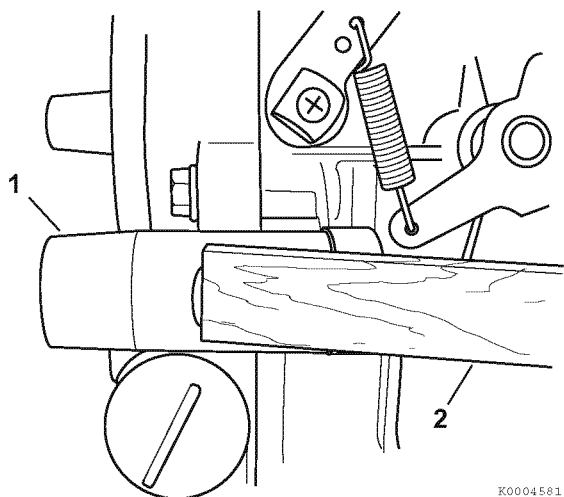

Figure 7-23
4. Use a hammer and metal chisel (2, **Figure 7-23**) to drive off the tamper-resistant cover (1, **Figure 7-23**). The chisel should be held at about a 30° angle to the tamper-resistant cover, and engaged in the slot. Discard the old tamper-resistant cover.